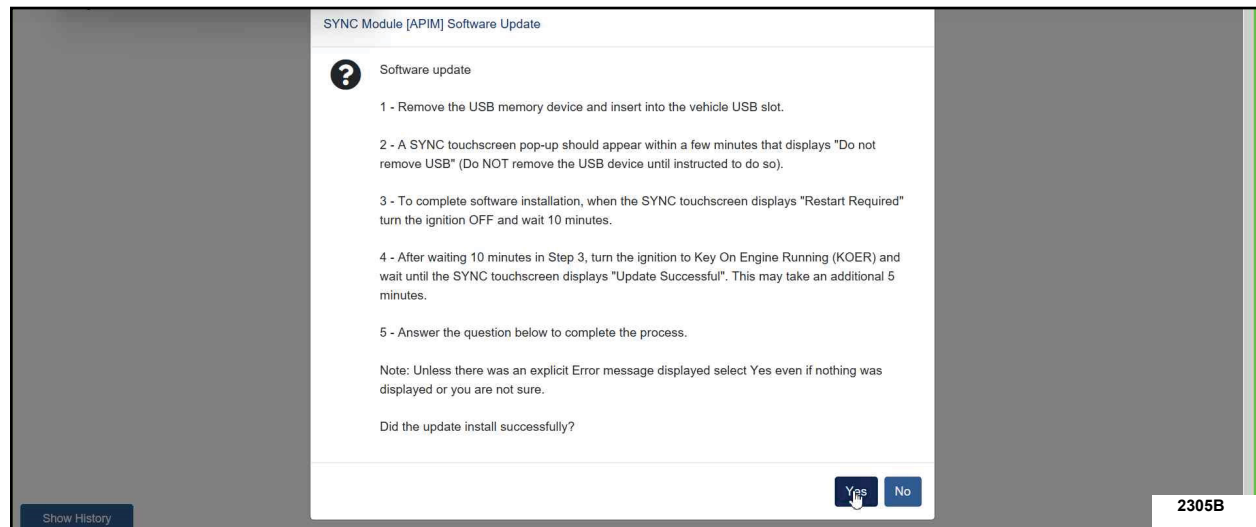

FIGURE 1
11. Continue to follow all on-screen instructions carefully until the following screen is reached. See Figure 1.